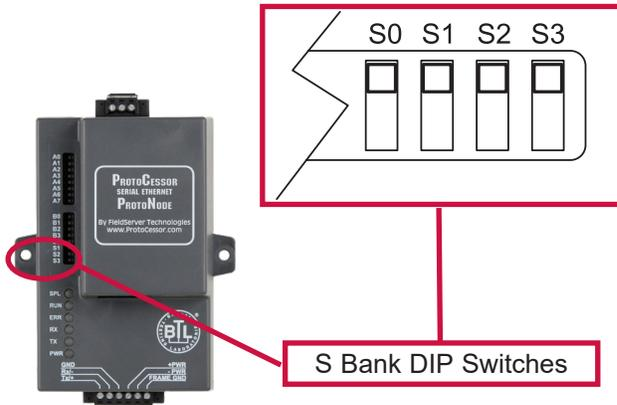

Figure 2. S0 through S3 DIP Switches
3. Select the Field Protocol (BACnet MS/TP, BACnet IP, Modbus TCP or Metasys N2) on the S Bank Dip Switches on the FPC-N34-0636. (See **Figure 2**)
- All Raypak VERSA IC Master units connected to the ProtoNode MUST ALL have the same Baud Rate, Data Bits, Stop Bits, and Parity. (See **Figure 2**) These settings have no impact on the BMS portion of the Protonode communication and only are used to connect between the Versa IC Master and the Protonode.